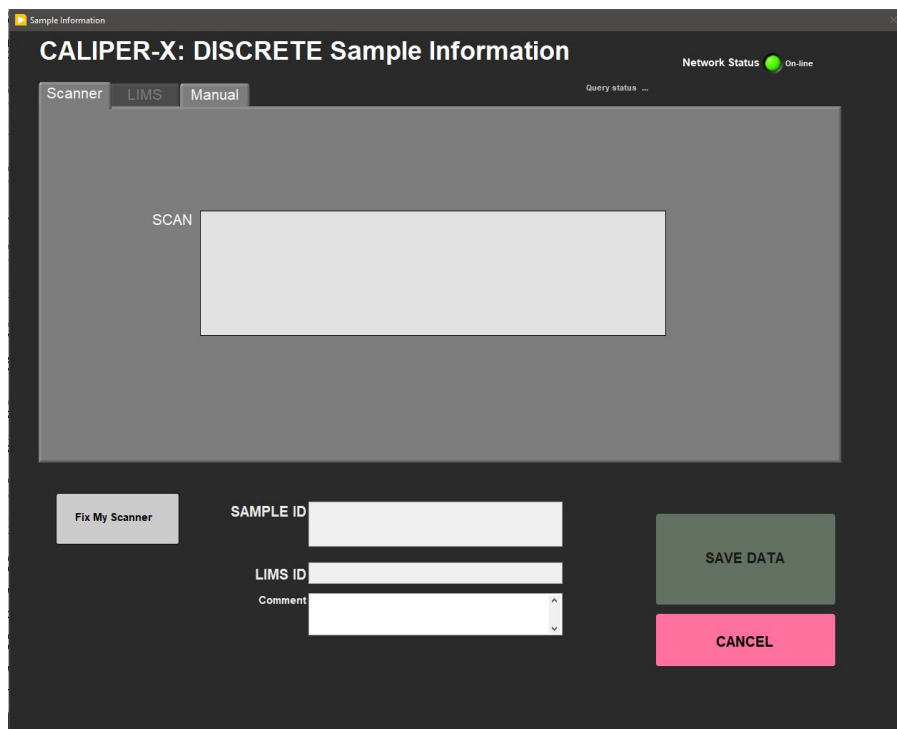

Figure 15. Discrete Caliper Measurements Sample Information Window
6. Select **Save Data**. The sample information window will open (Figure 15). Note that the measurement offset will not be populated. The laser range finder is not used for discrete measurements.